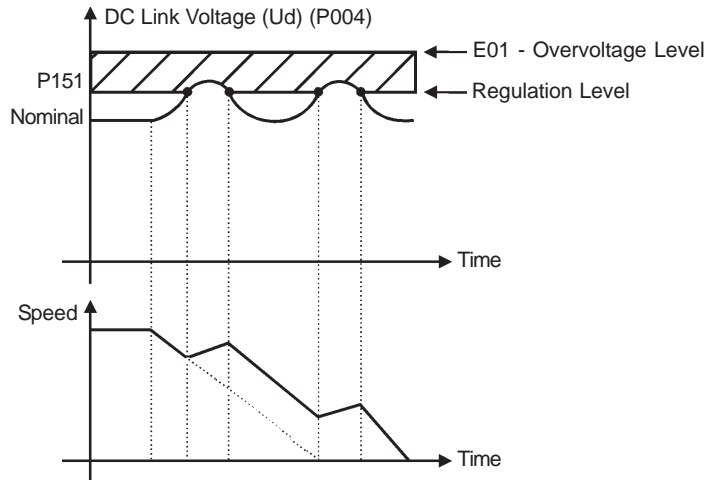

Figure 6.13 - Deceleration curve with DC Link voltage limitation (regulation)
**Type of DC Link Voltage Regulation when P152>0.00 and P151 are set different that than the maximum value:** When the DC Link Voltage reaches the regulation level during the deceleration, the deceleration ramp time is increased and the motor is also accelerated until the DC link voltage leaves the defined over-voltage level. There after deceleration is continued. See Figure 6.13.